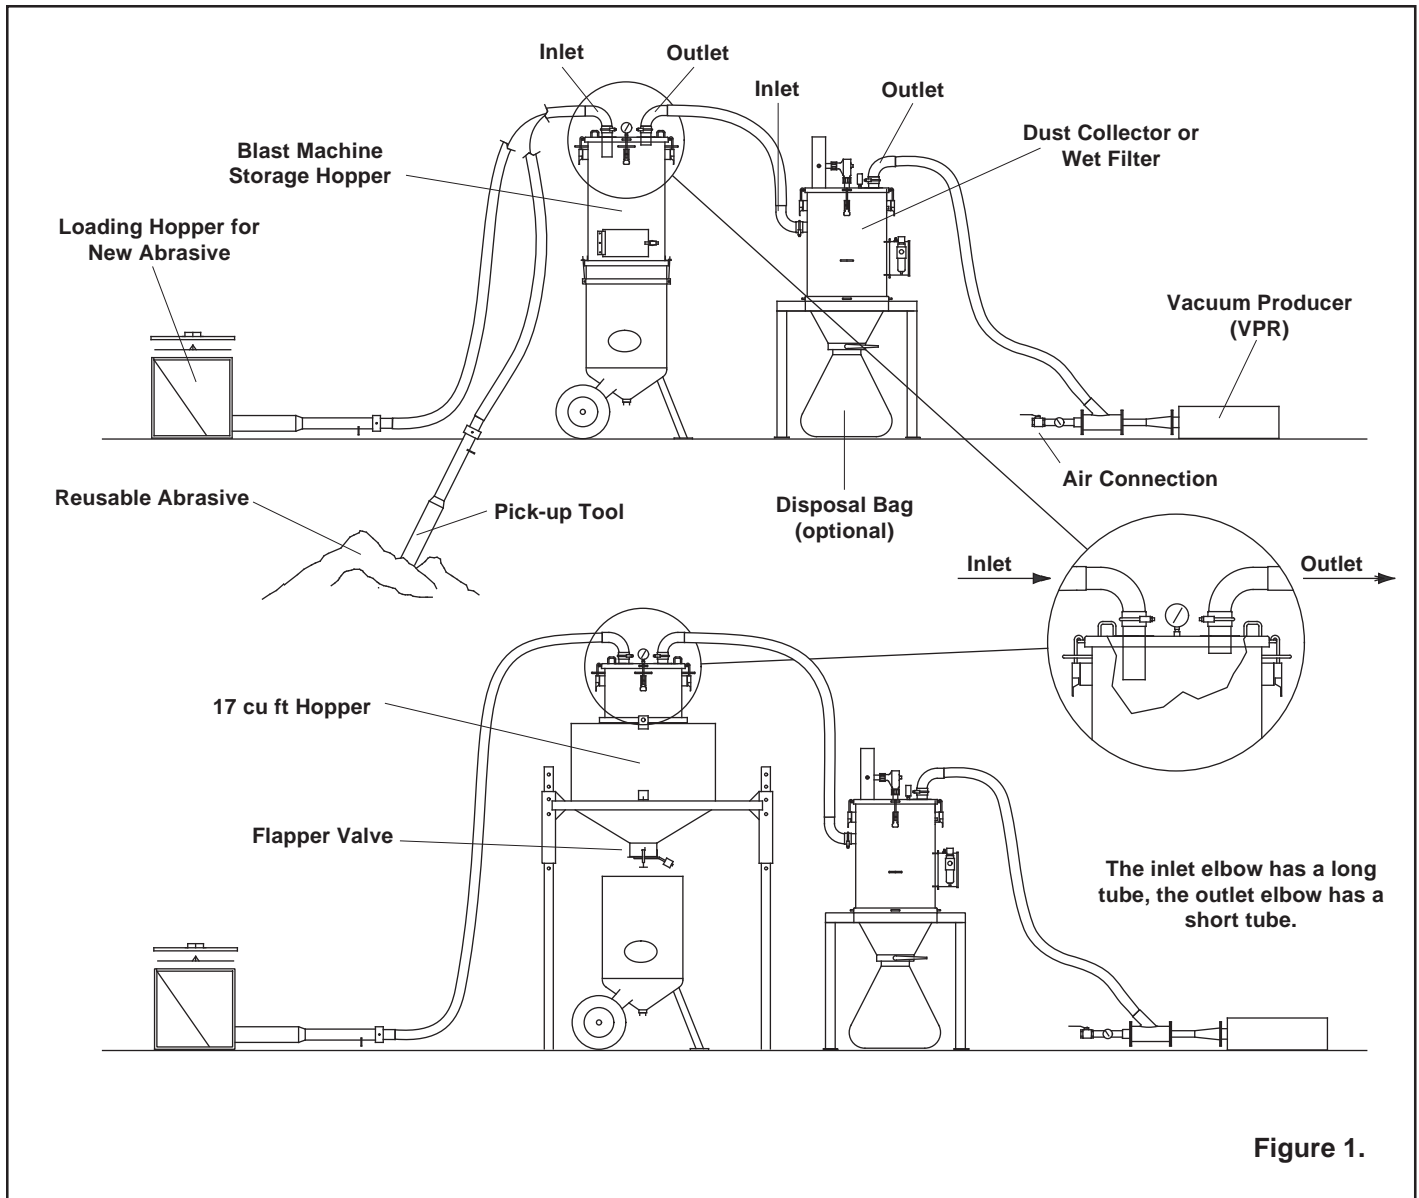
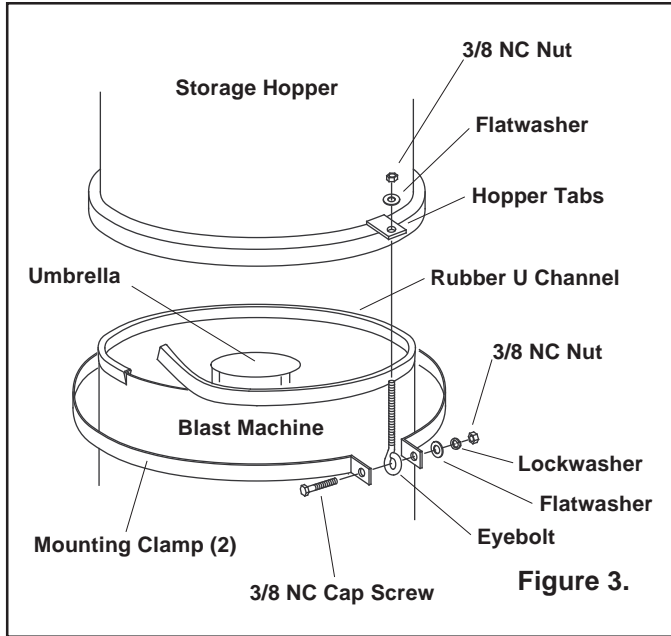
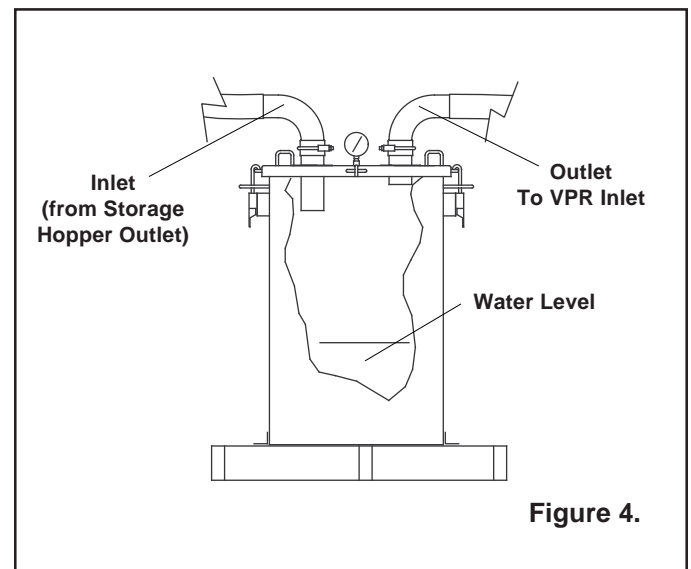

Figure 1.
Figure 3.
Figure 4.
1.3 General Description: The layout and components of the Easy Load systems are shown in Figures 1 and 2. The only difference between the two systems shown in the figures, is that one uses a 6 cubic foot storage hopper mounted on the blast machine, while the other uses the larger free-standing 17 cubic foot hopper. Figure 1 shows them set-up for loading, Figure 2 shows them set-up for recovery of spent abrasive.
The illustrations are shown with the reverse pulse dust collector. See Figure 4 for an illustration of the wet-filter. All connections, regardless of the dust containment options are the same as shown in Figures 1 and 2.
1.4.2 Loading Mode: (See Figure 1) The Easy Load is a pneumatic abrasive loader which can move new or reusable abrasive from the loading hopper to the blast machine storage hopper, or the pick-up tool can be removed from the loading hopper to load piled abrasive. The system can be truck or trailer mounted for portable use or used in a permanent facility.
3.1.1 The following text explains the set-up for using the Easy Load in the loading mode. Set-up for recovery is the same except a recovery container is used in place of the blast machine storage hopper. If the 17 cubic foot hopper is used the only difference is the blast machine is removed from under the hopper and replaced with a disposal drum. See Figure 1 for loading set-up, Figure 2 for recovery set-up.
3.1.2 The illustrations in Figures 1 and 2 shows the optional reverse pulse dust collector. Set-up for the wet-filter is the same as the dust collector with the exceptions noted in section 3.6.1. See Figure 3 for wet-filter illustration.
3.2 Set-Up (Refer to Fig. 1 and 2).
3.3.1 Attach the mounting clamps to the blast machine as shown in Figure 3. The top of the clamps should be approximately 2" to 3" from the top of the machine. Consideration must be given to where the access door should be located, before securing the mounting clamps.
3.6.1 Wet-filter, Figure 4: for assembly of the reverse pulse dust collector see section 3.6.2.